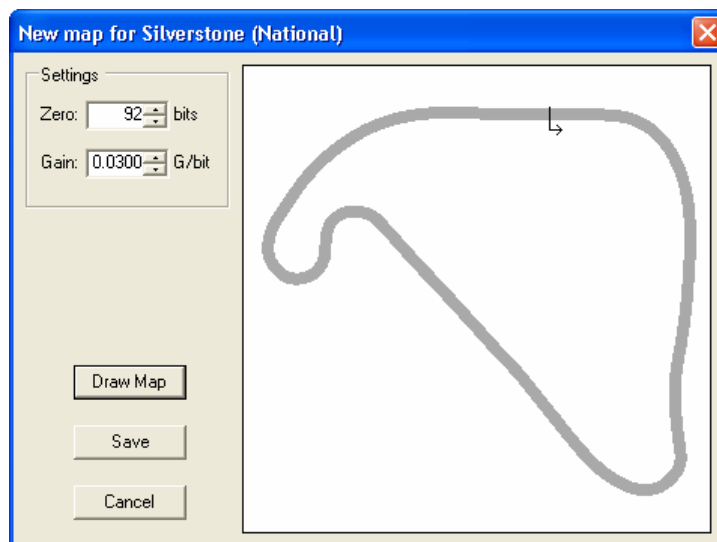

Figure 22 - New Circuit Map Dialog
2. Choose **Map** → **New** from the main menu or activate the context menu for the lap and select the **Create Map** option. The New Circuit Map dialog (Figure 22) appears.